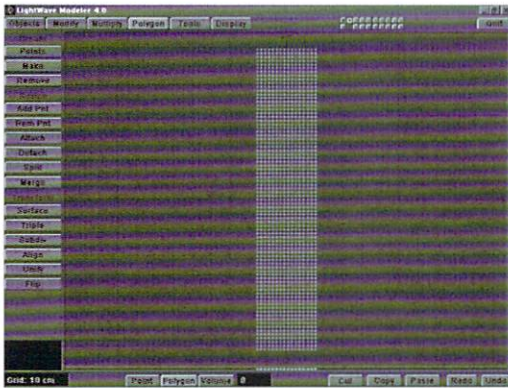

Figure 8: The object that our slime surface will be applied to.
- Click Make (Objects panel or Enter), (Figure 8).